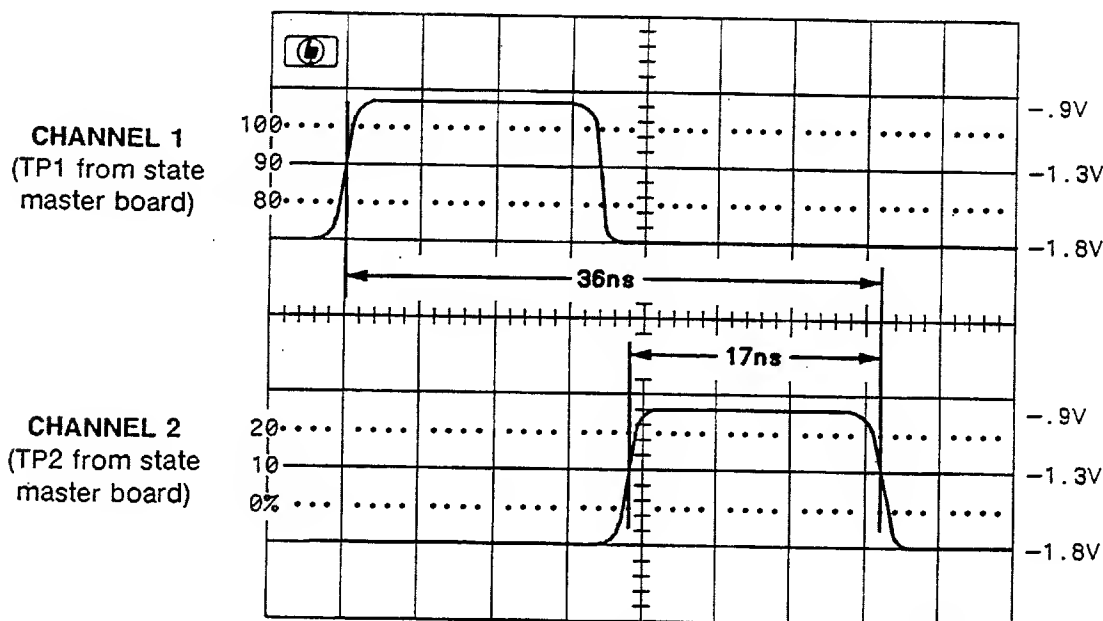

Figure 5-5. Strobe Signals.
- Connect Channel 1 of the oscilloscope to TP1 on the State Master board. Connect Channel 2 to TP2. Trigger the oscilloscope on the Channel 1 signal. The period of the signals is $5.5\mu\text{s}$. By setting the oscilloscope controls to 0.5 V/div., 5.0 ns/div., and displaying both channels you should get approximately the display in figure 5-5. The adjustments to be made are shown on the figure. The adjustment accuracy is ± 500 ps.